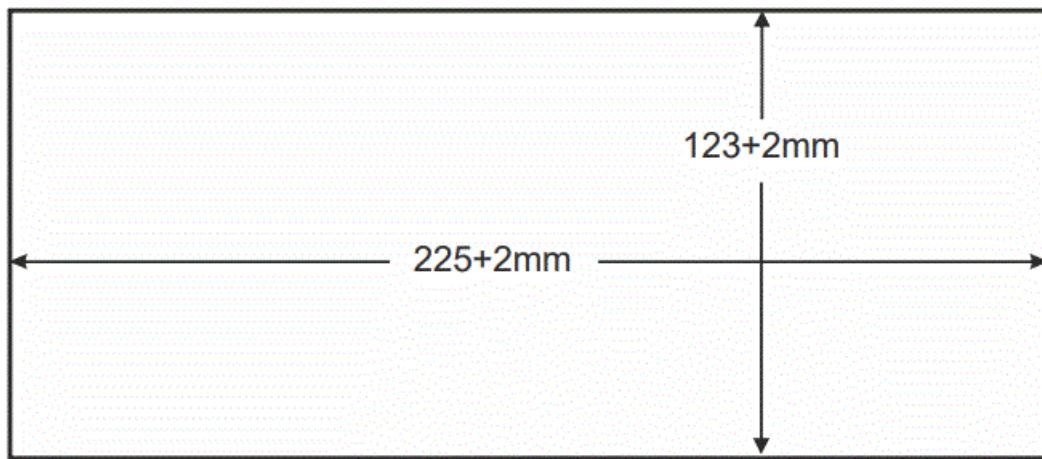

Figure 4: Cut-out Dimensions
3. Following the inside edge of the template, cut a hole in the table surface with a saber or keyhole saw according to the dimensions shown in Figure 4 (not to scale).